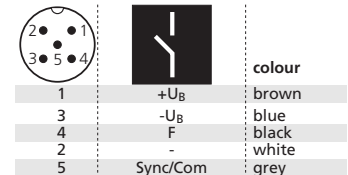

Fig. 2: Pin assignment with view onto sensor plug and colour coding of the microsonic connection cable
- Connect a connection cable to the M12 device plug, see fig. 2.